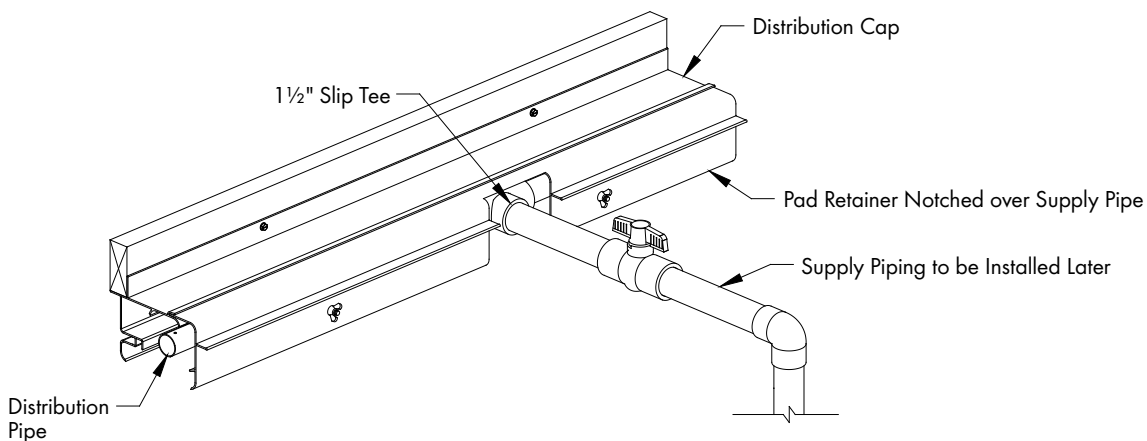

Figure 17C
***NOTE:** Pad Retainer will need to be notched, so it can be installed over supply pipe near center of system. *See Figure 17C.*